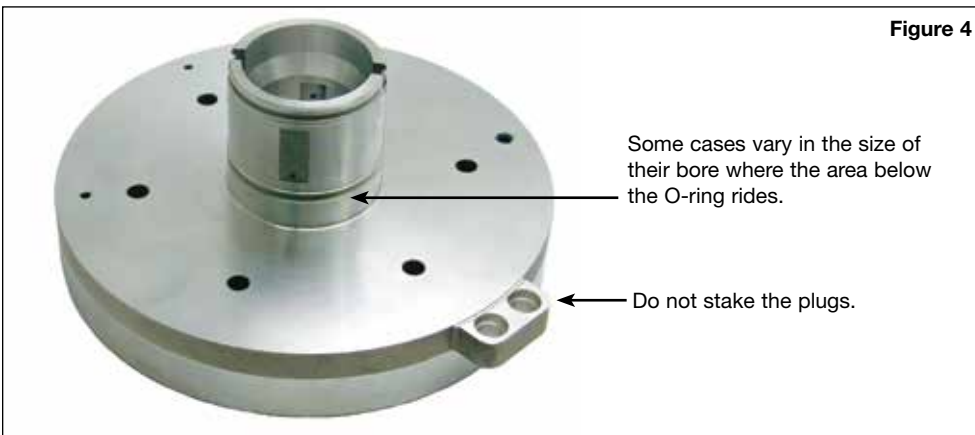

**Figure 2**
2. It is recommended that you drill a small .040-.045" hole in the case to help lubricate the low roller clutch. See **Figure 2** for the exact location of the hole. This process is not a requirement to use the Sonnax retainer.